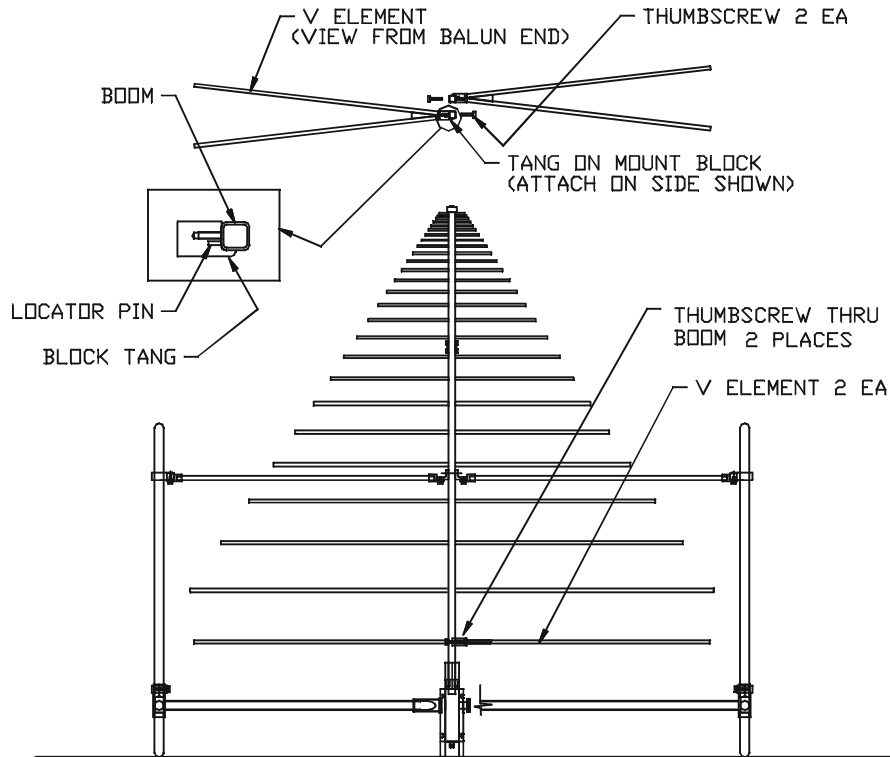

FIGURE 4 – Assembly Step 6
Step 6. The V elements should be installed and tightened using the thumbscrews through the boom (see Figure 4).